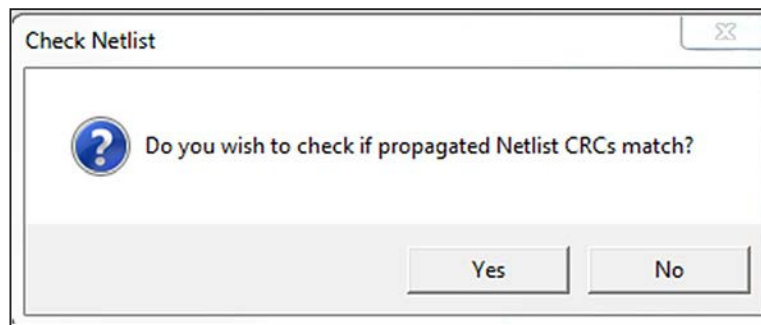

Figure 142. Check Netlist dialog box.
- STEP 5.** The Check Netlist dialog box opens. See Figure 142 on page 130. This gives the option to verify the circuit data in the field devices matches the presently loaded circuit.
STEP 6. Click on the **No** button to skip this check. Performing the check is recommended. Click on the **Yes** button in the Check Netlist dialog box. See Figure 142. If the Netlist check is not successful, it is recommended not to proceed and confirm the correct IntelliTeam Designer circuit was opened.